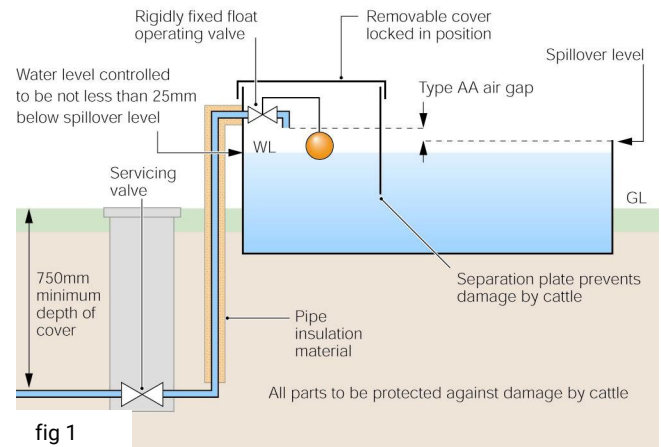
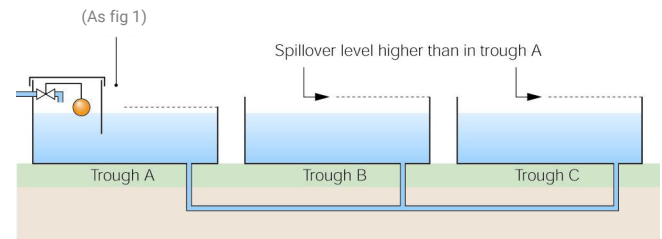

fig 1
fig 2
1. The inlet to an animal or poultry drinking trough should be provided with a float operated valve or other no less effective inlet device. The inlet device should be a AA or AB airgap installed to prevent backflow from a fluid category 5 risk and prevent any contamination of the supply pipe. The inlet device and backflow arrangement should be protected from damage. The general arrangements of the trough will be accepted as being satisfied if the animal watering trough complies with BS3445: Fixed agricultural water troughs & water fittings (see fig 1).
2. Where there are animal drinking troughs which are supplied with water from a single trough the spillover levels of the supplied drinking troughs should be at a higher level than the initial drinking trough in which the water inlet device is located. This is illustrated in fig 2 where troughs B and C are arranged at such a level that any overflow takes place at A, where trough A is arranged as in fig 1.